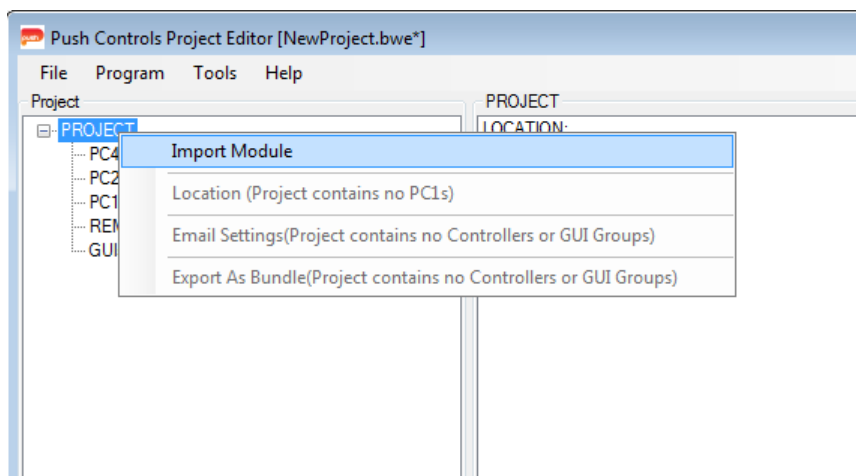

Figure 3 – Right click on PROJECT, inside the project tree, to import a module.
- Right click on 'PROJECT' at the top of the tree and select 'Import Module'. Refer to Figure 3